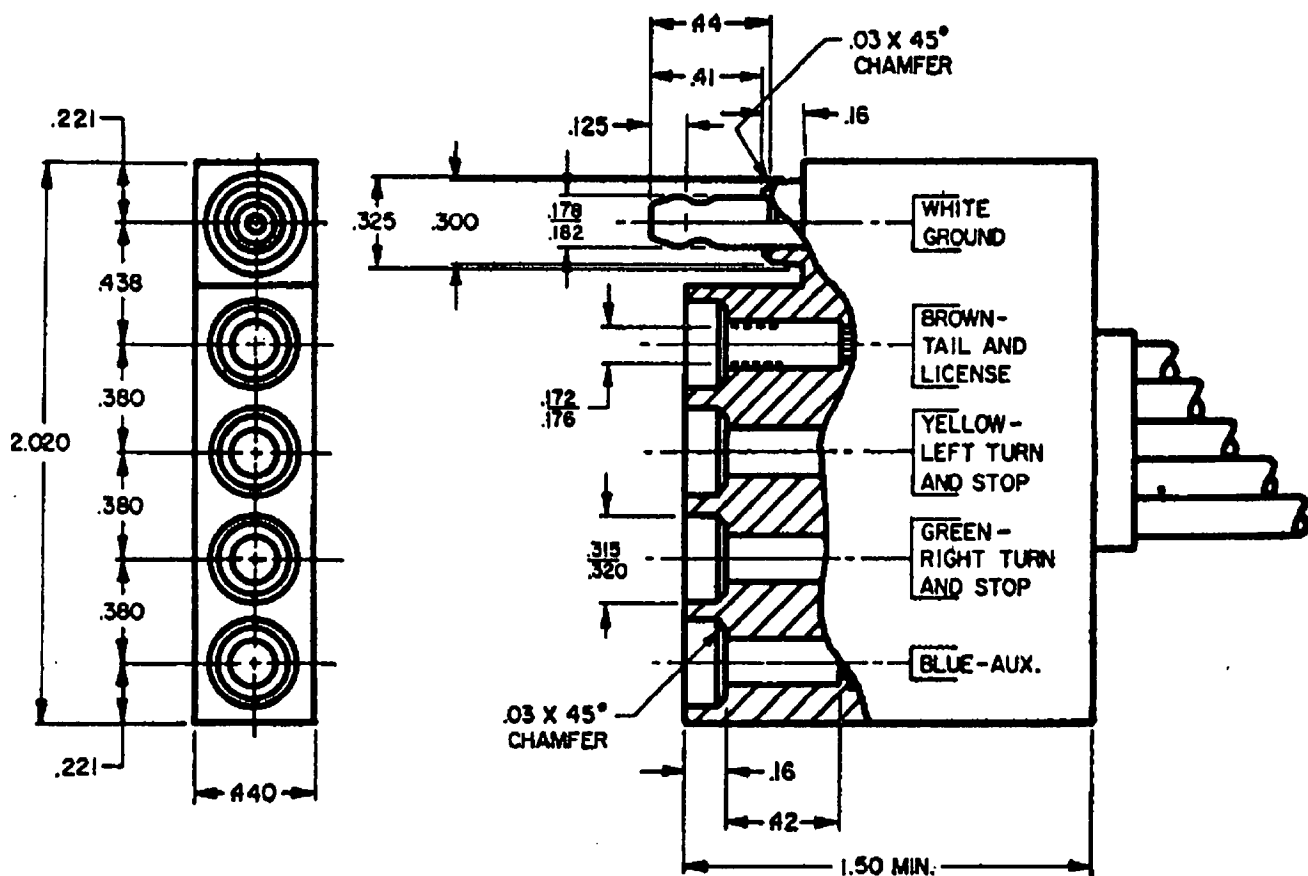

FIGURE 1—RECEPTACLE
3. **Receptacle**—The receptacle shall be of the design as shown in Figure 1 and shall be attached to the towing vehicle as follows: